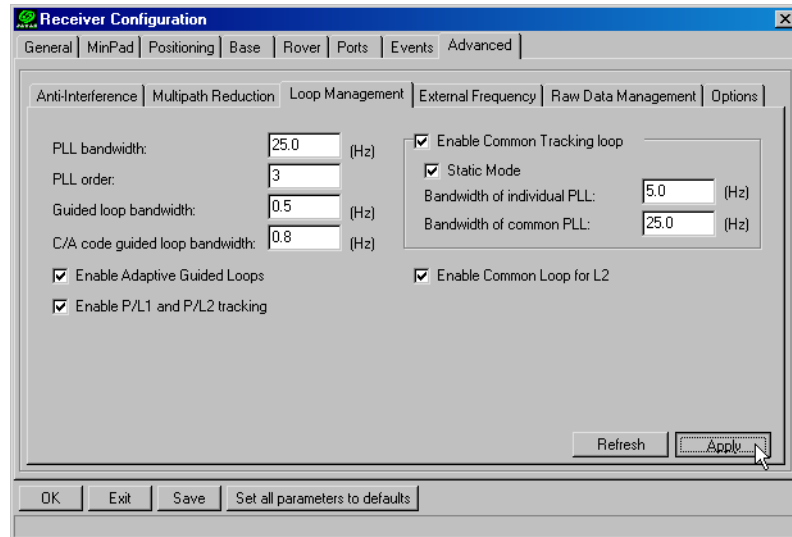

Figure 3-7. Advanced->Loop Management
4. Click the **Loop Management** tab and set the following parameters, then click **Apply** (Figure 3-7 on page 3-10):